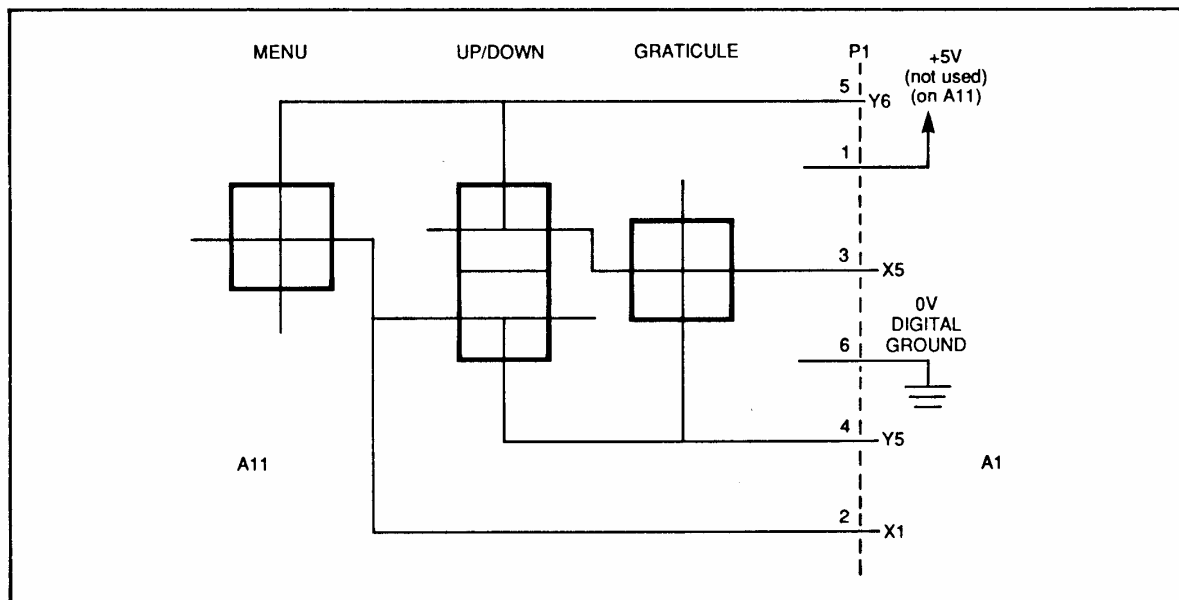

Figure 8-95. Switch Matrix Lines
- a. Switches. The A11 PCB switches--MENU SELECT, MENU UP/DOWN, and GRATICULE ON/OFF--are connected into the control panel matrix via Connector P1. Figure 8-95 shows the A11 switch matrix lines.